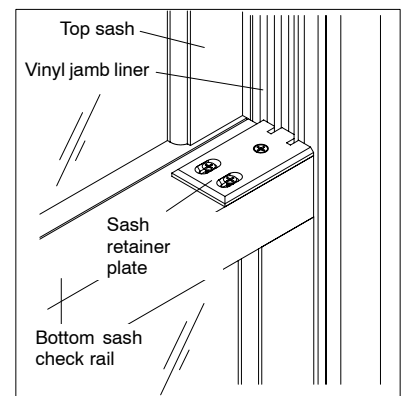

Figure 8
- Slide the sash retainer clips tight against the jamb liner. Secure each clip into place by installing the screw provided into the pre-drilled hole. See figure 8.